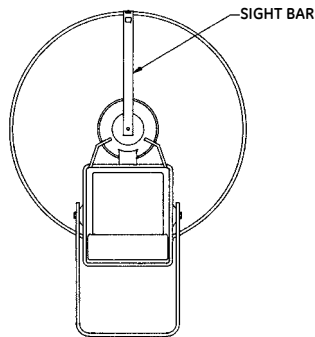

FIGURE 5A
4. Rotate sight bar into position; see *Figure 5A*.